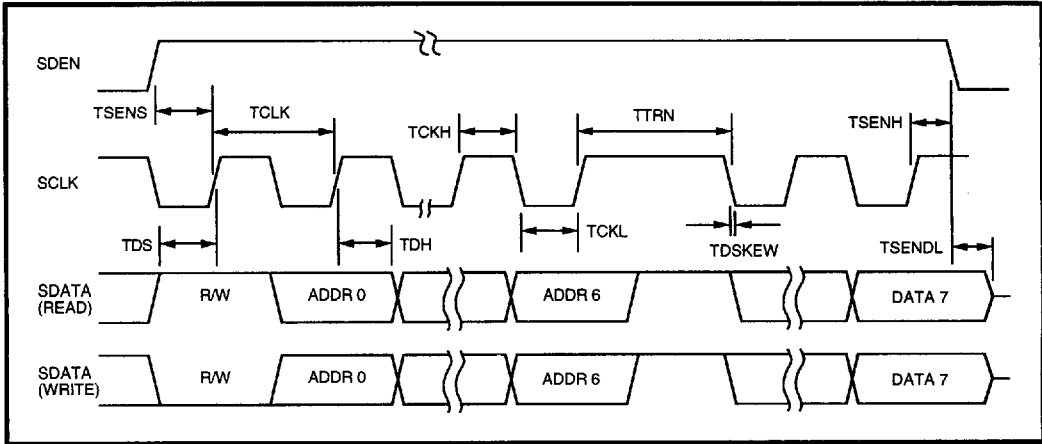

FIGURE 6 : Serial Port Timing Information
All transfers are shifted into the serial port LSB first. The first byte of the transfer is address and instruction information. The LSB of this byte is the R/W bit which determines if the transfer is a read (1) or a write (0). The remaining 7 bits determine the internal register to be accessed. Table 3 provides register mapping information. The second byte contains the programming data. In serial port read mode (R/W=1) the SSI 33P3701 will output the register contents of the selected address. In serial port write mode the device will load the selected register with data presented on the SDATA pin. At initial power-up, the contents of the internal registers will be in an unknown state and must be programmed prior to operation. During power down modes, the serial port remains active and register programming data is retained. Detailed timing information is provided in Figure 6.